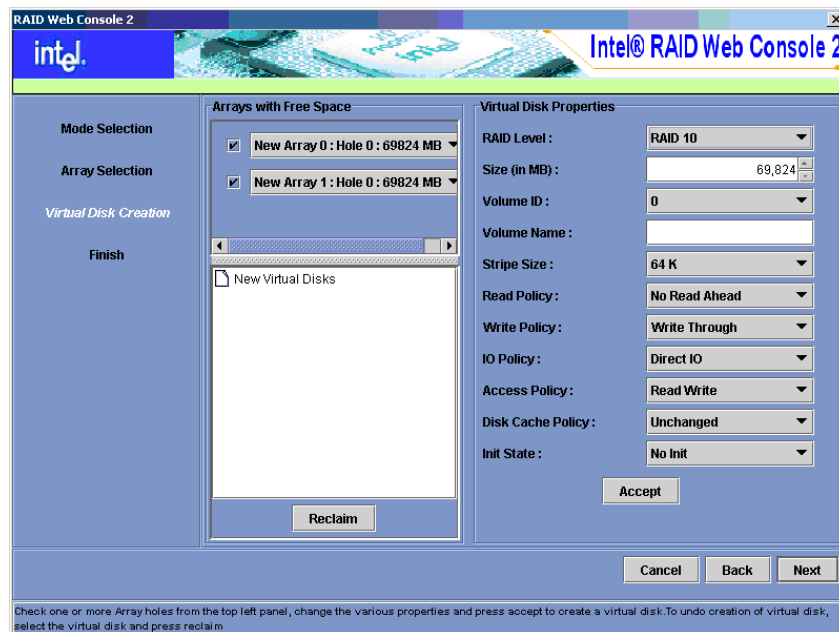

Figure 50. Defining the Spanned Array
4. On the next screen (Virtual Disk Creation), select two or more of the new arrays or disk groups from the Arrays with Free Space menu, as shown in Figure 50. You can select up to eight arrays or disk groups for the spanned array.
5. Select RAID 10 from the drop-down RAID Level menu, as shown in Figure 50, or select RAID 0 or RAID 50 for the other types of spanned arrays or disk groups.